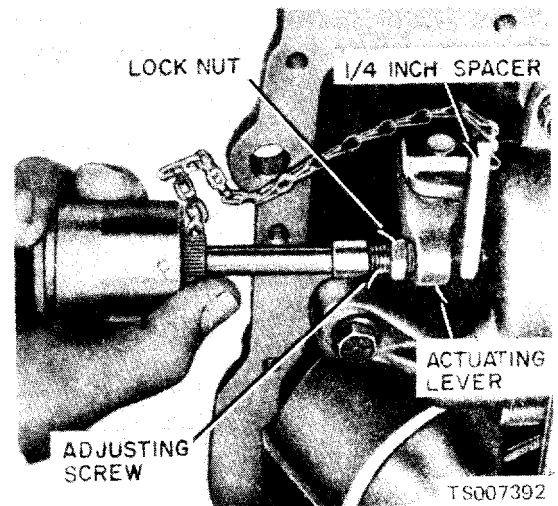

Figure 7-3. Front Band Adjustment.
(1) Drain the fluid from the transmission. If the same fluid is to be used again in the transmission after the band adjustment, filter the fluid through a 100-mesh screen as it drains from the transmission. Reuse the fluid only if it is in good condition.
(2) Remove the pan, then remove the fluid filter and clip from the transmission. Clean the inside of the pan. Remove all gasket material from the pan and pan mounting face of the case.
(3) Loosen the front servo adjusting screw locknut two full turns with a 9/16 inch wrench. Check the adjusting screw for free rotation in the actuating lever after the locknut is loosened, and free the screw if necessary. See figure 7-3.